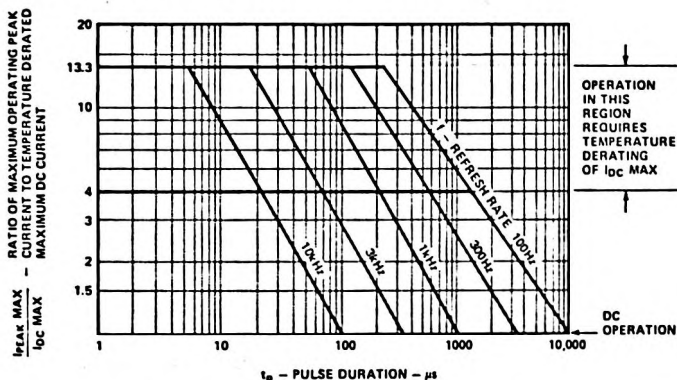
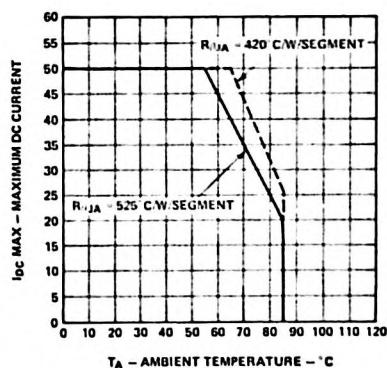
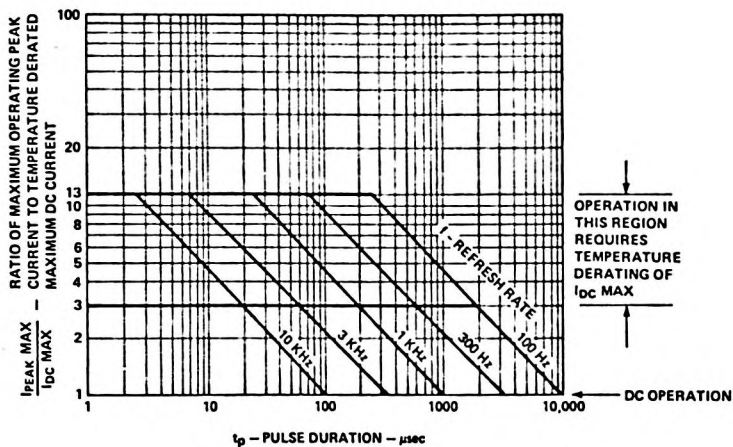

Figure 1. Maximum Allowable Peak Current vs. Pulse Duration
Figure 2. Maximum Allowable DC Current per Segment vs. Ambient Temperature
Figure 11. Maximum Allowed Peak Current vs. Pulse Duration
9. See Power Derating Curves (see Figure 2 for -3400 Series, Figure 7 for -3900/-4200 Series, and Figure 12 for -8600 Series).
11. See appropriate curves to establish pulsed operating conditions (see Figure 1 for -3400 Series, Figure 6 for -3900/-4200 Series, Figure 11 for -8600 Series).
Temperature derated strobed operating conditions are obtained from Figures 1, 6, or 11 and 2, 7, or 12. Figures 1, 6, and 11 relate pulse duration (t_p), refresh rate (f), and the ratio of maximum peak current to maximum dc current ($I_{\text{PEAK MAX}}/I_{\text{DC MAX}}$). Figures 2, 7, and 12 present the maximum allowed dc current vs. ambient temperature. Figures 1, 6, and 11 are based on the principle that the peak junction temperature for pulsed operation at a specified peak current, pulse duration and refresh rate should be the same as the junction temperature at maximum DC operation. Refresh rates of 1 kHz or faster minimize the pulsed junction heating effect of the device resulting in the maximum possible time average luminous intensity.
Worst case thermal resistance pin-to-ambient is 400°C/W/Seg when these devices are soldered into minimum trace width PC boards. When installed in a PC board that provides $R_{\theta \text{ PIN-A}}$ less than 400°C/W/Seg these displays may be operated at higher average currents as shown in Figure 2.